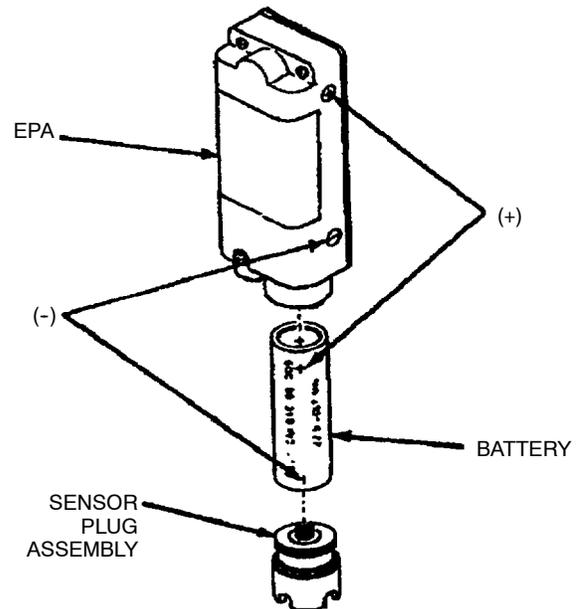

Figure 48. Install Battery
- f. Install battery positive (+) pole first into EPA and install sensor plug fingertight (Figure 48). (QA)